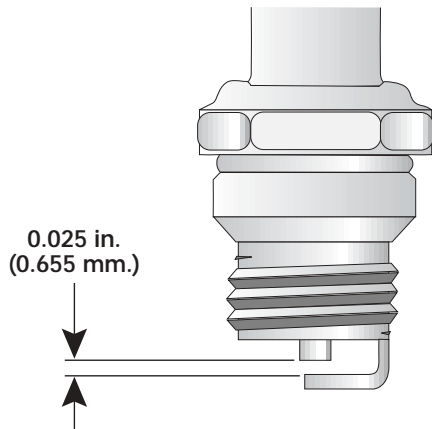

Fig. 33
3. Replace cracked, fouled or dirty spark plug. Set the air gap at 0.025 in. (0.655 mm) using a feeler gauge (Fig. 33).